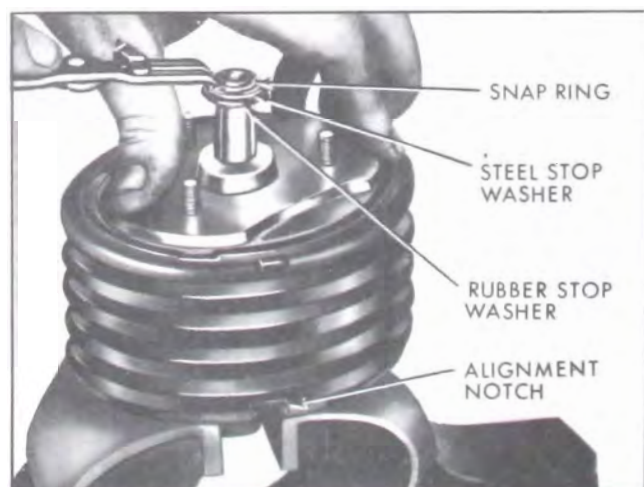

Figure 9-29—Removing Snapping
4. While holding mounting hub and bellows down against return spring, remove retaining ring, steel stop washer and rubber stop washer from guide sleeve. **CAUTION:** Use care to avoid damaging retaining ring by opening too wide. Discard rubber stop washer. Figure 9-29.
1. Carefully clamp valve housing in padded jaw vise in such a position that alignment mark (see Figure 9-29) is clearly visible.
8. Still holding mounting hub assembly down against return spring, place new rubber stop washer, then steel stop washer, over guide sleeve. Install retaining ring, being sure it is seated properly in its groove. Refer to Figure 9-29.